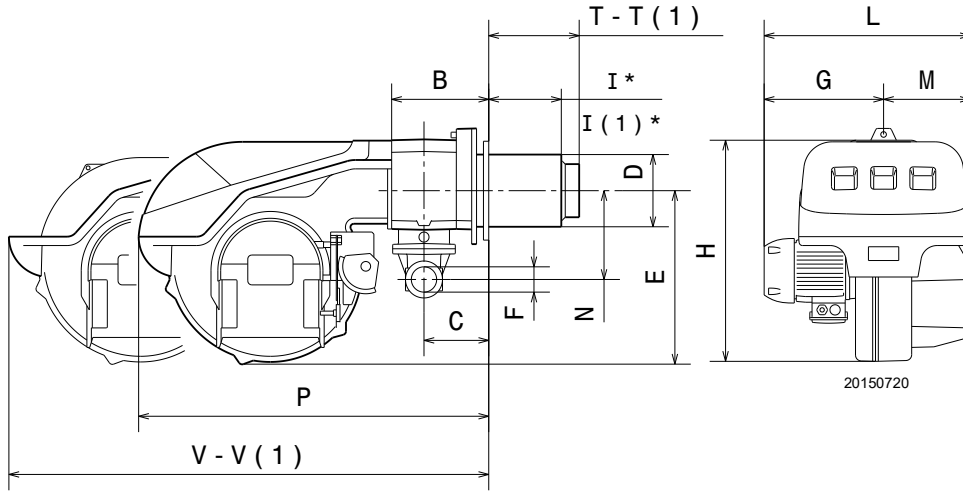

Fig. 1
The dimensions of the burner are shown in Fig. 1.
* The maximum depth of the boiler door is referred to dimension "l" (Fig. 1 at page 8).